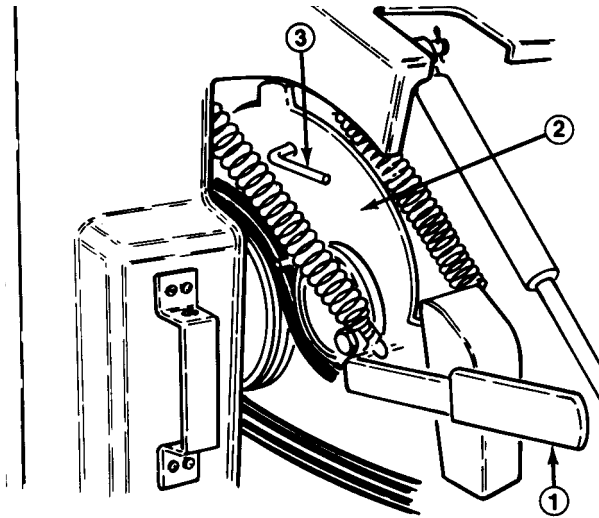

Figure 17
2. Push down on override lever until holes in lever bracket and coring head are aligned, then insert pin through holes (Fig. 17).